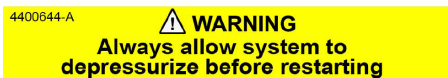

Figure 41 — Operating Instruction label
- As part of the installation process, ensure that the safety and operational instruction decal is affixed in an obvious location so that it can be seen by vehicle operators. A good spot for this is usually on the inside of the door or on the panel underneath the steering wheel (Figure 41).